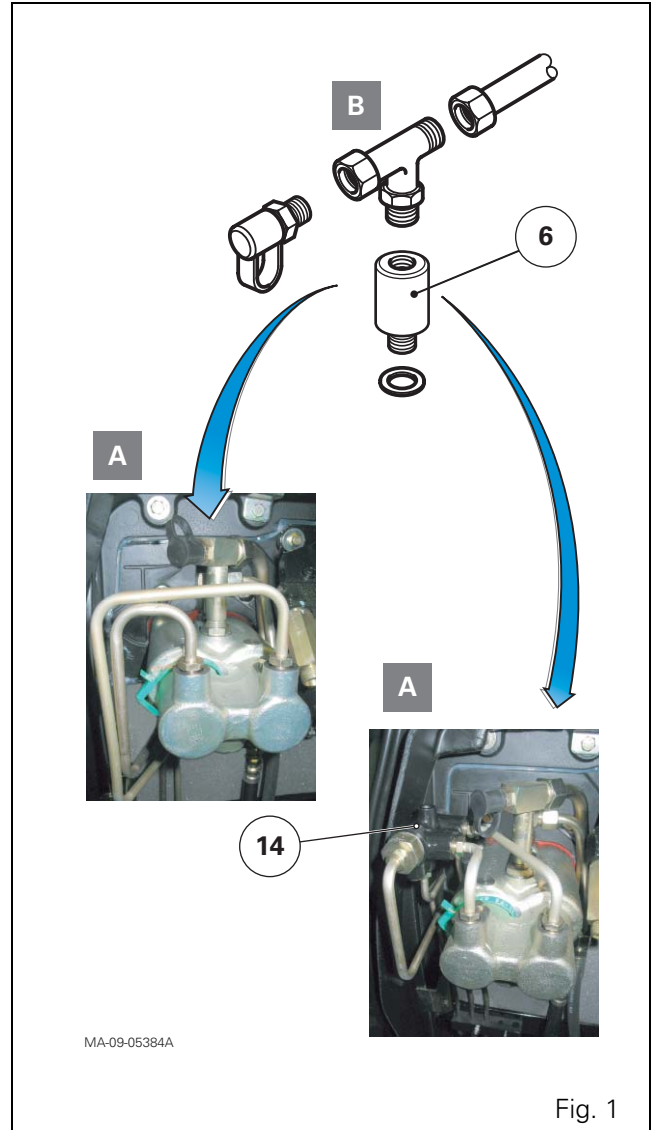

Fig. 1
The MERITOR brake master cylinders are attached to the pedal console and are housed to the right of the cab front bulkhead (Fig. 1).
The master cylinder specifications are similar whether the requested option includes trailer brake or not. However, if the trailer brake option has been selected, an FTE valve (14) is added to the system to perform this function (Fig. 1). This valve controls a second valve located in the external priority block of the hydraulic unit with two priority blocks (see chapter 9).
Legend (Fig. 1)